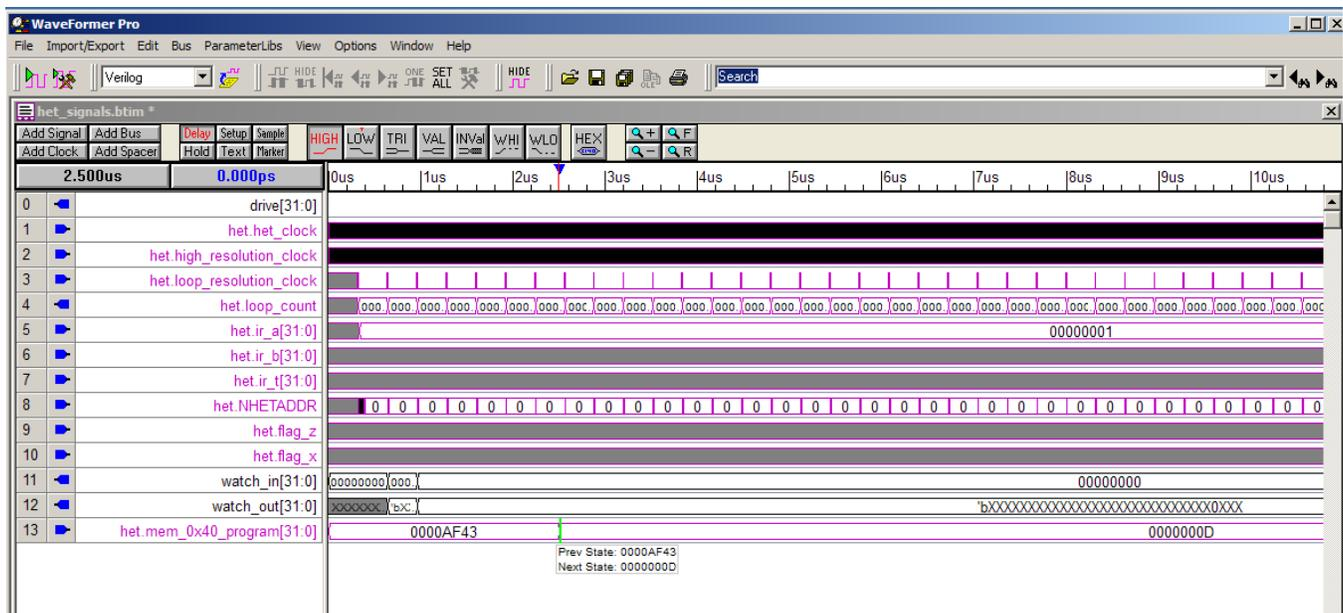

Figure 43. Waveform at Completion of Tutorial 5 (with added instruction trace)
- After zooming, your waveform should appear like the one shown in Figure 43. Note that the memory trigger, that you setup to over-write the instruction at address 0x40, can be seen taking effect in the trace of HET.mem_0x40_program[31:0] at 2500 ns (2.5 μs), which matches the trigger time you configured. The value 13 is displayed in hexadecimal format in the waveform listing as 0xD.